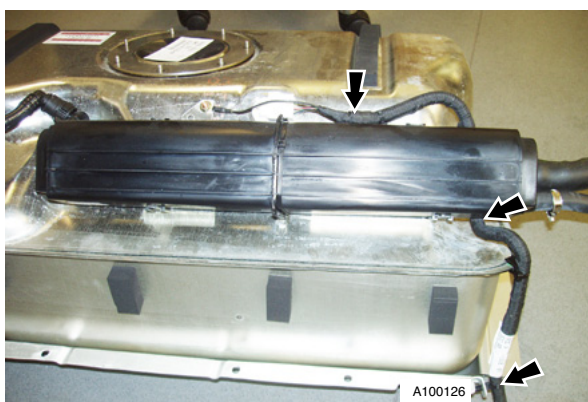

Fig. 10
21. Release clips (x5) fuel tank harness and remove harness (see Fig. 10).